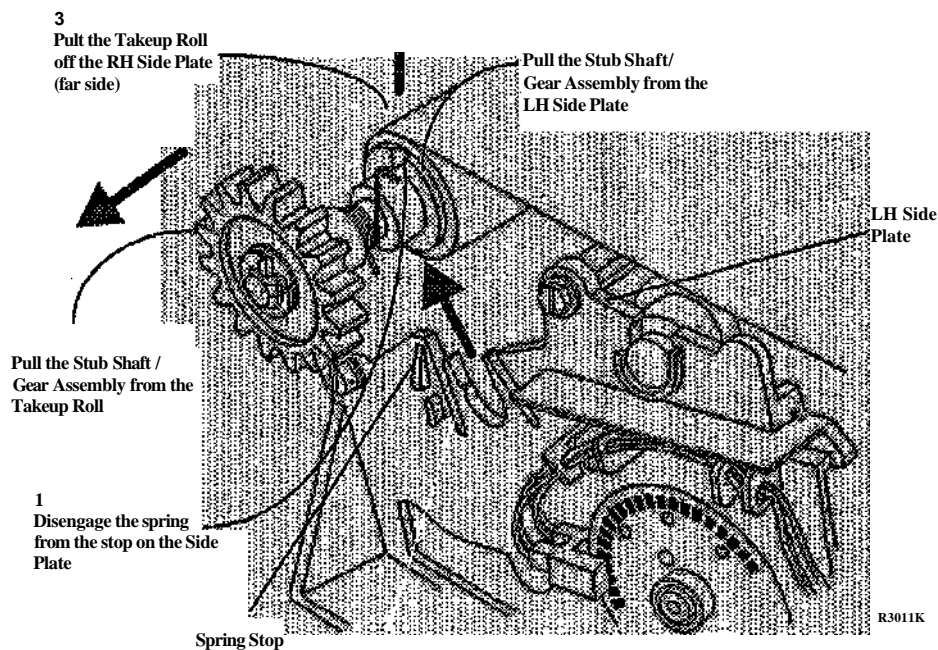

Figure 2. Removing the Takeup Roll
3. (Figure 2): Remove the Takeup Roll